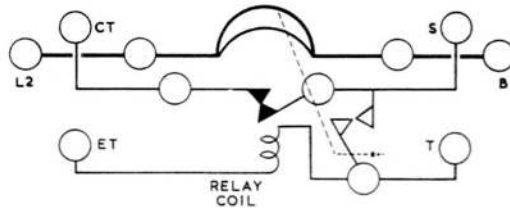

Fig. 2. Diagram of internal connections
3. Information covering the functioning and servicing of the unit will be found in the above mentioned chapter. A diagram of internal connections is shown in fig. 2.